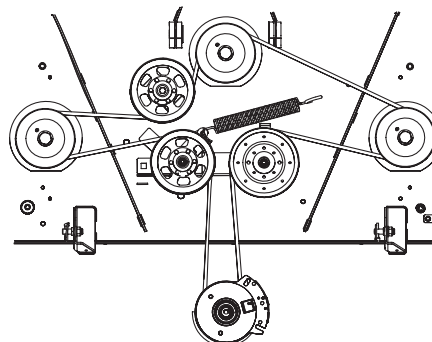

Figure 4-19
- Place the belt around the idler pulleys removed in Step 3 with the 'V' side facing in. Once in place, reinstall all the hardware and tighten the flange lock nut to secure the assembly. See Figure 4-19.
- Route the belt as shown in Figure 4-19 and then reinstall the deck (refer to Deck Installation).